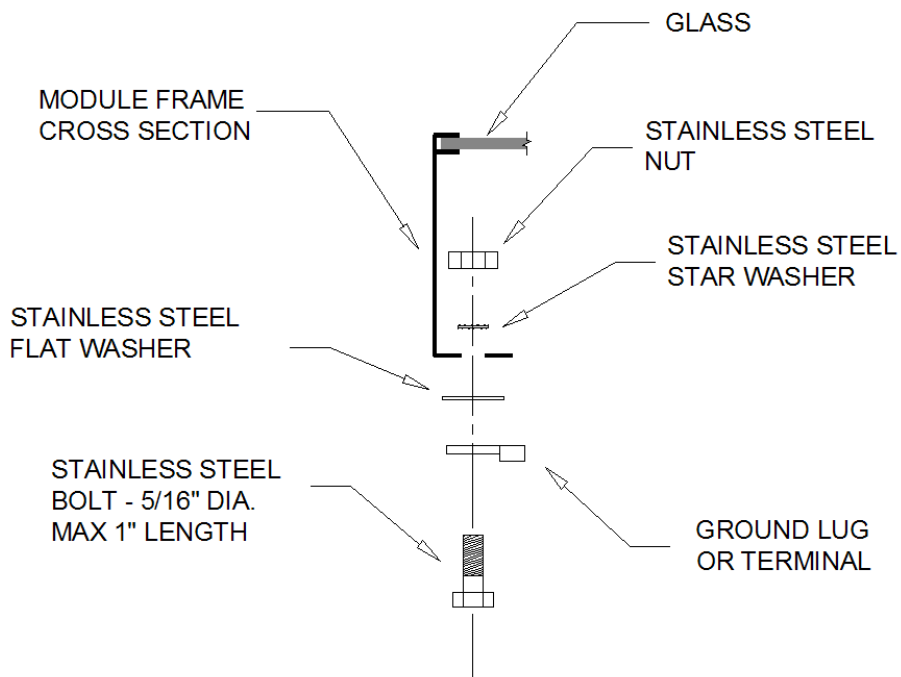

Figure 8 – Using a Mounting Hole with Ground Lug or Terminal
2. You may mount a lay-in lug as described in Method 2. The bolt should be 5/16" diameter. See also Figure 8.